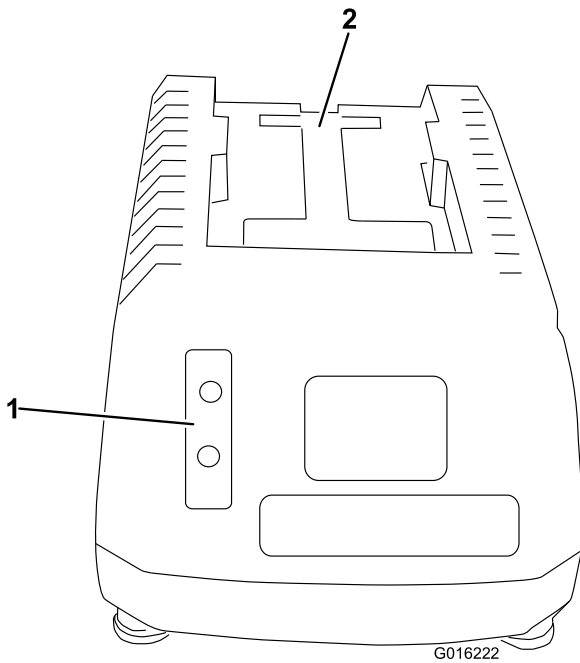
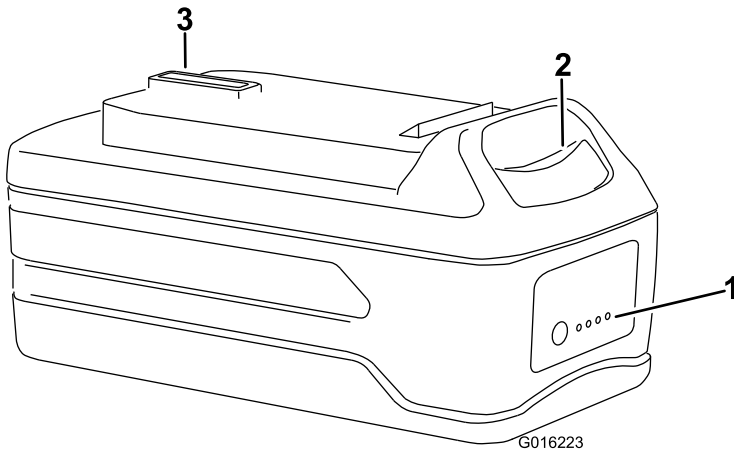

Figure 7
Figure 8
- Turn the battery upside down and line up the battery terminal with the slot in the charger (Figure 7 and Figure 8).